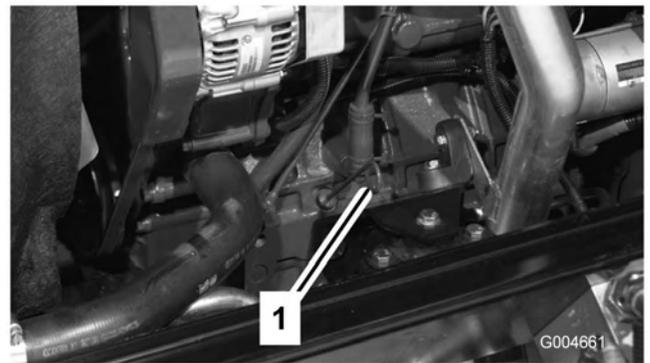

Figure 5
3. Remove the dipstick, wipe it clean, install the dipstick into the tube, and pull it out again. The oil level should be up to the Full mark (Figure 5).